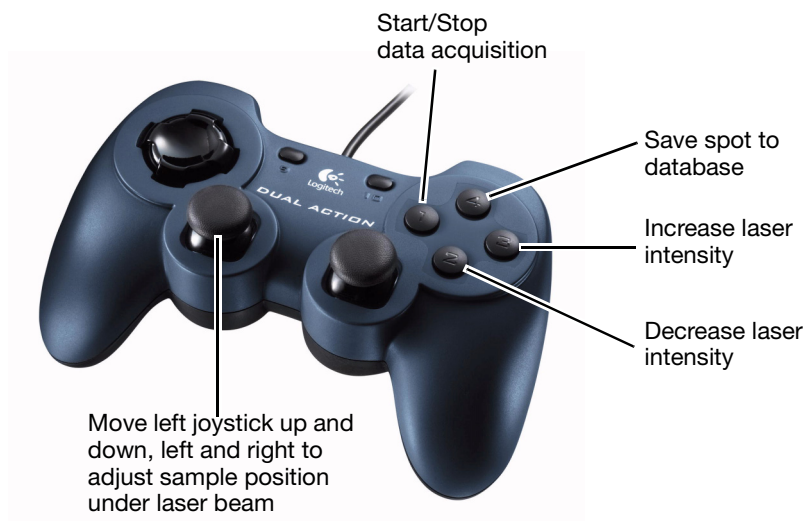

Figure 4-7 Control Pad
3. Start the laser by pressing the **1** button on the control pad (Figure 4-7 on page 4-10).
- Use the control pad (Figure 4-7 on page 4-10).
- Press the **1** button on the control pad (Figure 4-7).
- Press the **A** button on the control pad (Figure 4-7 on page 4-10).